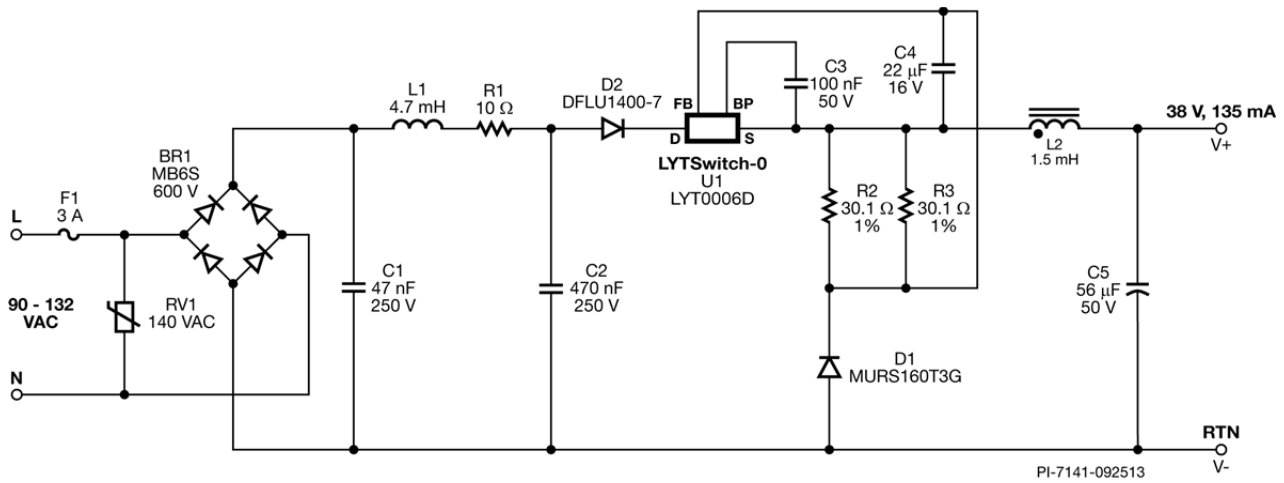

Figure 4 – Schematic.
The power supply shown in Figure 4 uses the LYT0006D (U1) in a high-side buck configuration to deliver a constant 135 mA current at an output voltage of 38 VDC. The power supply is designed for driving LEDs, which should always be driven with a constant current (CC).